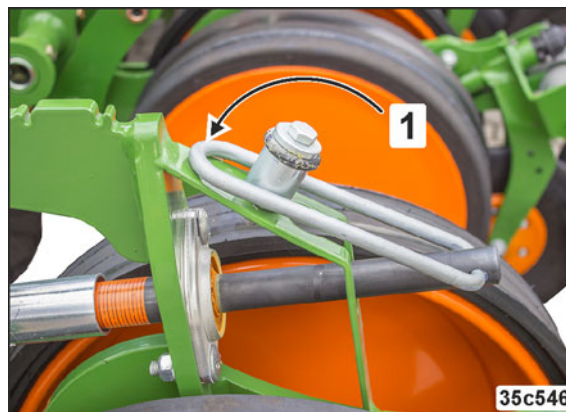

Fig. 176
3. Secure the clamp (Fig. 176/1) against rotation.